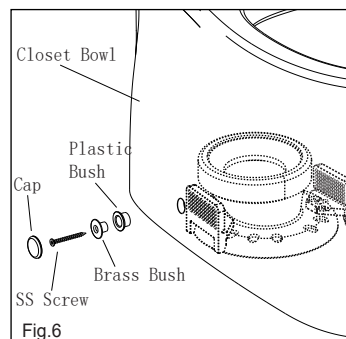

Fig.6
6. Insert the plastic and brass bushing into the bowl fixing holes as shown in Fig.6. Secure the bushings through the holes in fixing bracket with SS screws as shown in Fig. 7. Cover the holes with caps.